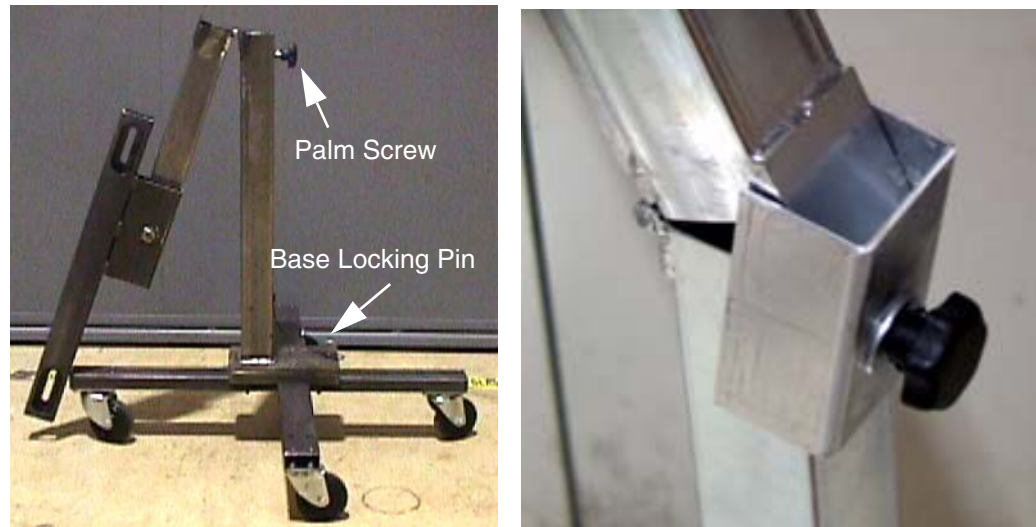

Figure A-6 Front Cover Dolly Stand and Base with additional Safety Bracket
- 3.) Install Stand in base, insert base locking pin, unfold stand top and secure with palm screw. Ensure additional safety bracket and washer are installed. Reference Figure A-6.